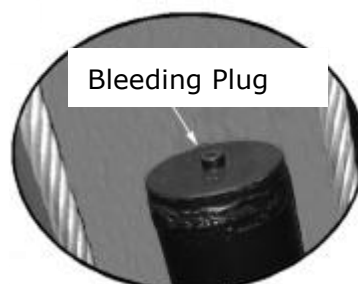

Fig. 54
3. Exhaust air from cylinder(See Fig. 54)